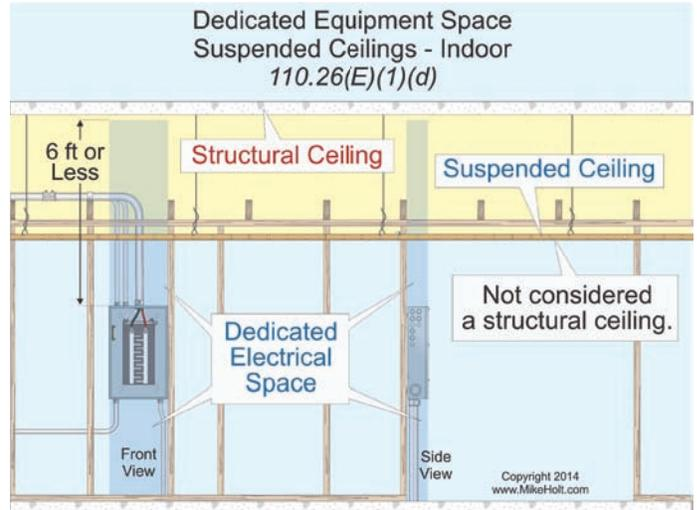

Figure 110-29
**(d) Suspended Ceilings.** A dropped, suspended, or similar ceiling isn't considered a structural ceiling. Figure 110-29
**(2) Outdoor.** Outdoor installations must comply with 110.26(E)(2)(a) and (b).